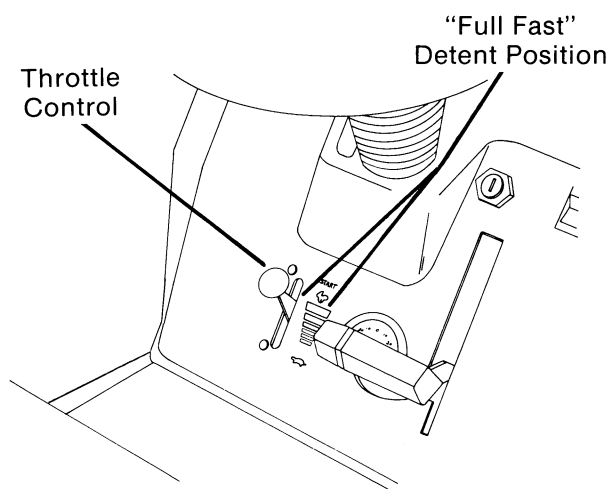

FIG. 18
- a. **(12 H.P. Engines Only)** Move throttle control lever up to the "FULL FAST" position. (Fig. 18) Attach end of throttle cable to top rear hole on inside control lever. Position cable under cable clamp and move throttle cable until tang on speed control lever just touches throttle adjustment screw. (Fig. 16) Tighten cable clamp screw after choke cable has been adjusted. See CHOKE CABLE - ADJUSTMENT.
- b. **(17 H.P. Engines Only)** Move throttle control lever up to the "FULL FAST" position. (Fig. 18) Push throttle cable thru hole in screen and baffle plate and attach end of throttle cable to end hole on speed control lever (under air cleaner on right side). Position cable under cable clamp towards the rear until speed control lever just touches tang. (Fig. 17) Tighten cable clamp.